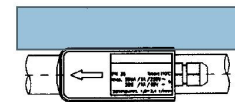

Fig. 2
5. There is an arrow on the top of the switch head which must run parallel to the pipe axis and point in the direction of flow (Fig. 2)